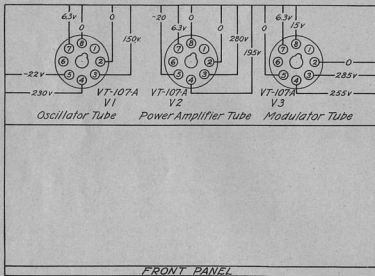

FIGURE 22.—Transmitter socket voltage diagram (transmitter viewed as in fig. 9.)
(1) *Transmitter tube socket pin-to-ground voltages.*—The pin-to-ground (chassis) voltages should be within plus or minus 10 percent of the values indicated in figure 22, when the conditions given below exist.